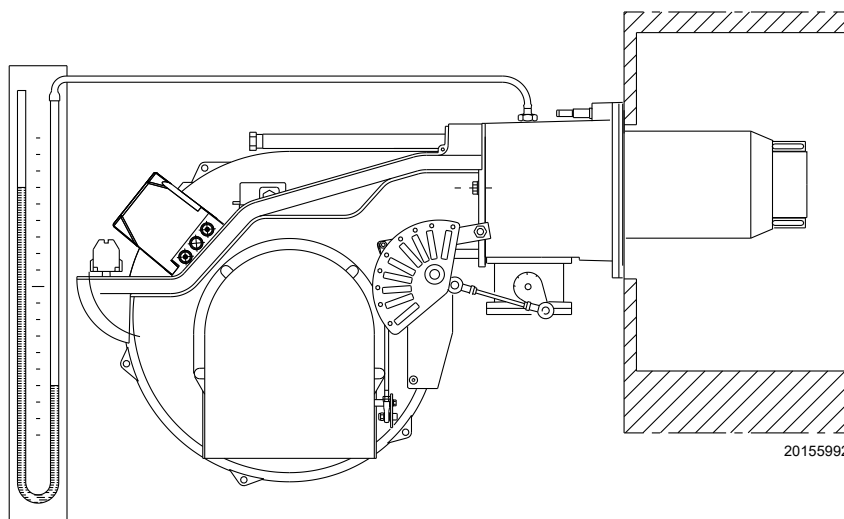

Fig. 27
- Bleed the air from the piping of the gas train, connecting a plastic tube to the pressure test point 1)(Fig. 27) of the minimum gas pressure switch.
- Fit a U-type pressure gauge (Fig. 27) to the gas pressure test point on the pipe coupling. It is used to calculate approximate MAX burner output using the Tab. K on page 22.
The arrival of gas to the sleeve is indicated by the U-type pressure gauge (Fig. 27 on page 26).
A rough indication can be obtained from Tab. K on page 22, just read the gas pressure on the "U" pressure gauge (see Fig. 27 on page 26) and follow the indications.